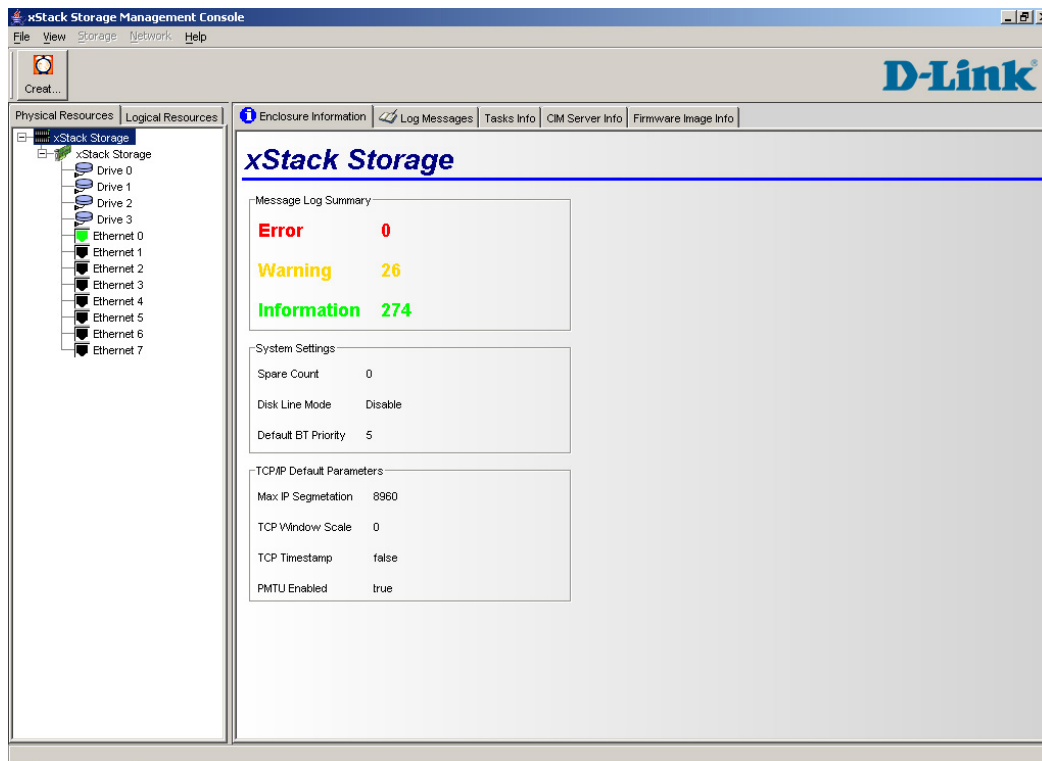

Figure 5-2 XStack Storage Management Console Main Screen
4. Click the OK button. A screen appears with a progress bar as the connection is being made to the XStack Storage. Once the connection is made, the main screen appears (see Figure 5-2).